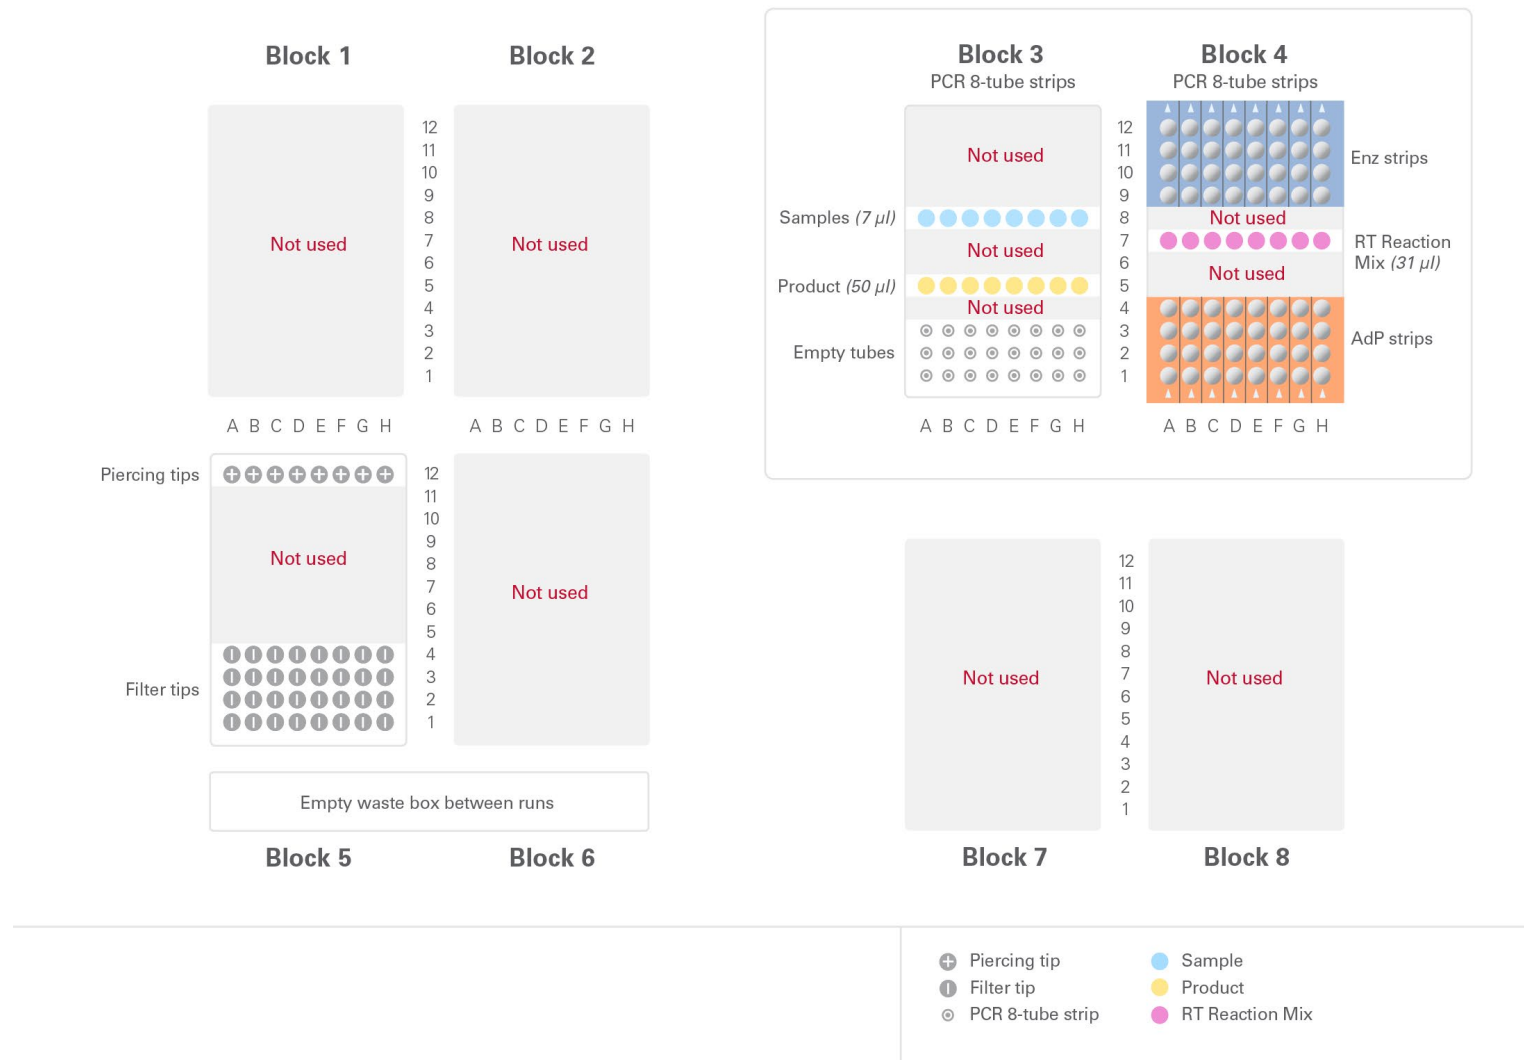

Figure 2. Deck layout for library synthesis from 8 samples. For this protocol, use script `PrepX_small RNA 8`. Run time is 4 hours and 45 minutes.
2. Load consumables onto the Apollo system work surface according to the layout in Figure 2. First, load the consumables that do not initially hold reagents (table above). Just before the run, load the consumables containing reagents, but not samples, onto the system. For information on the deck layout when processing fewer than 8 samples, please see Appendix B.
4. When the **Cooling** indicator has disappeared, and the **Run** button has appeared, load the samples and the correctly oriented blue Enzyme Strips and orange Adapter/Primer strips (AdP Strips) onto the Apollo deck according to the instructions shown on the touch screen and the layout shown in Figure 2.